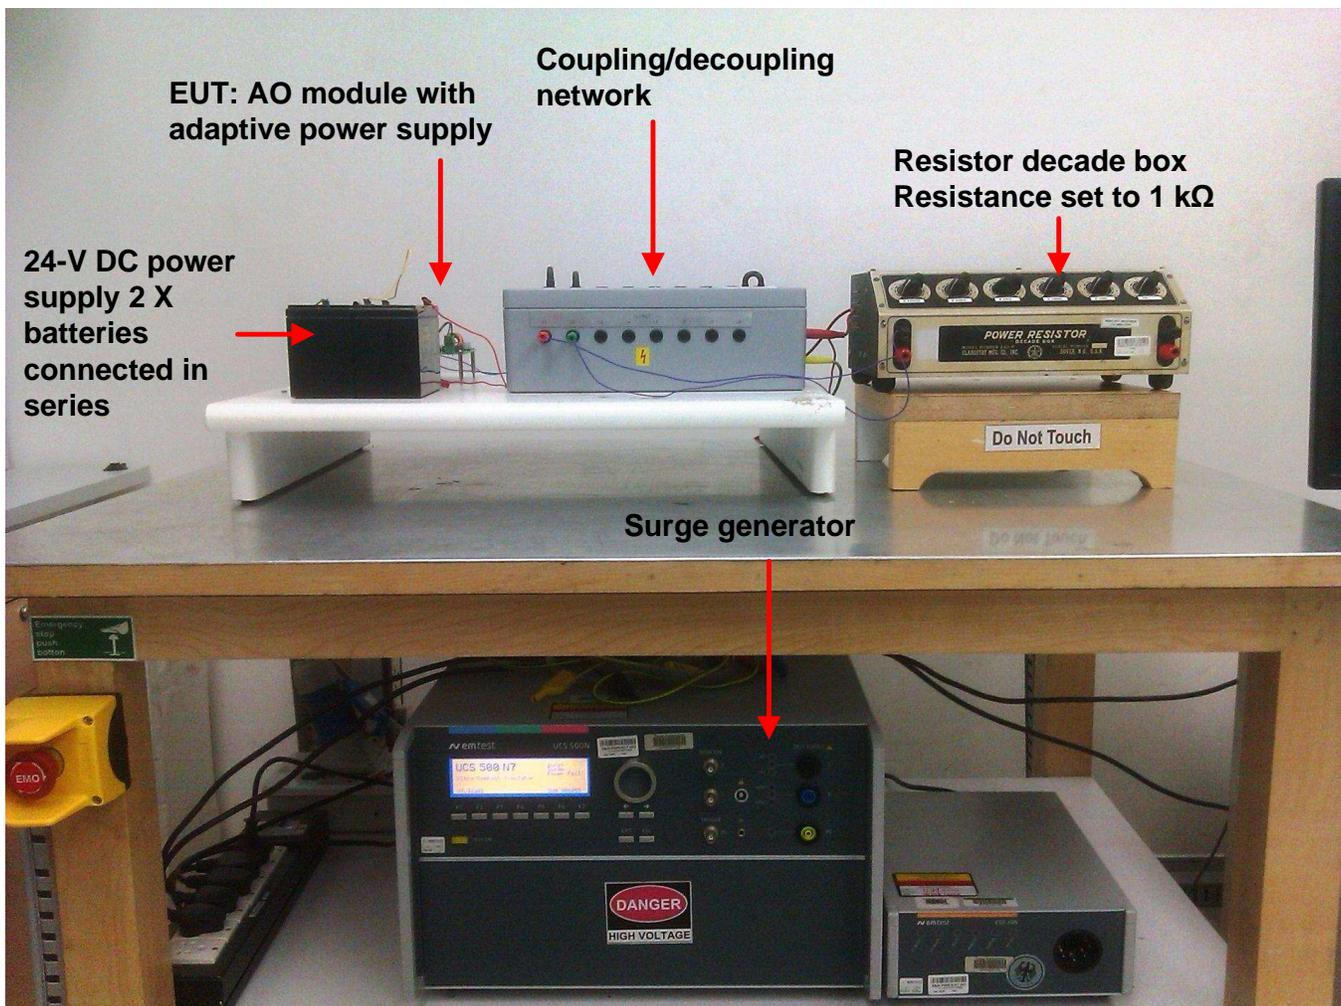

Figure 27. Surge Test Setup
1. Connect the EUT as shown in Figure 27. The shield pin is connected to protective earth same as the surge generator.